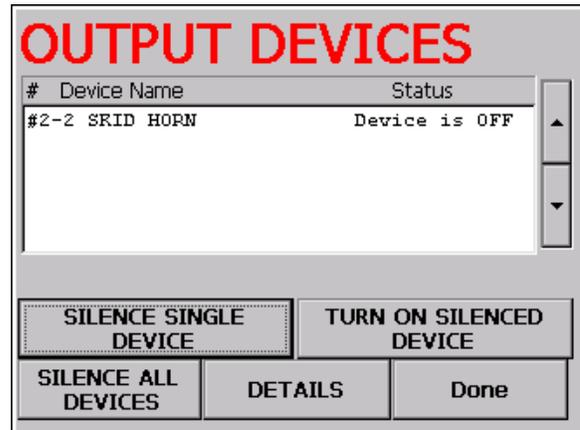

FIGURE 19.5 Silence single device button is selected thereby turning the horn off.
□ Notice in figure 19.5 the STATUS indicates the device is off.